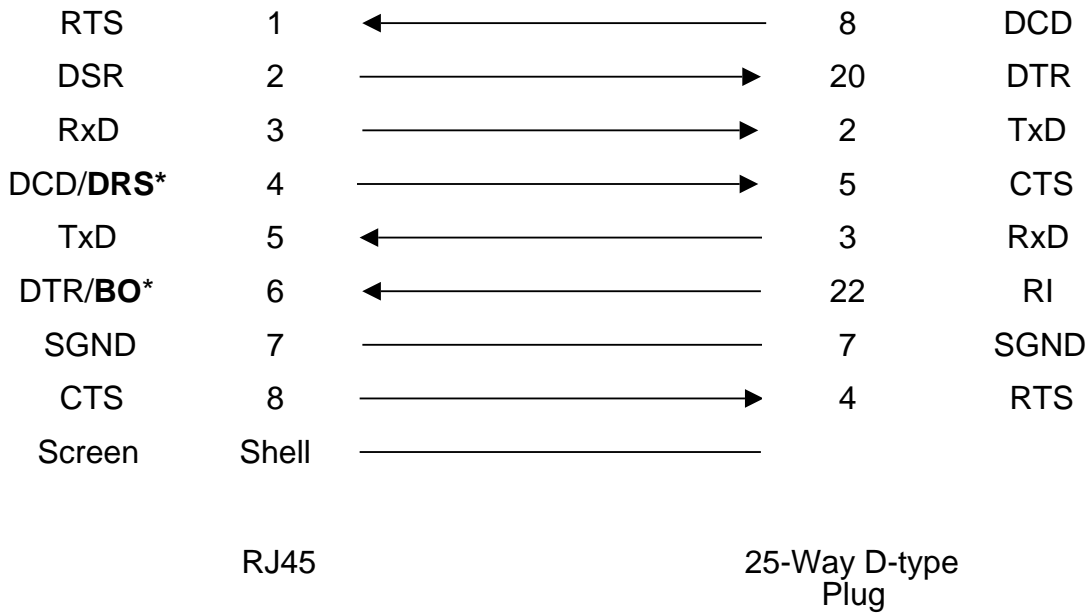

Figure B-5 RJ8 Application Card V.24 STP to 25-way D-type Crossover Converter (DCE to Dial-in Modem)
- (3) RJ8 Application Card to DCE (e.g. Asynchronous Dial-in modem) use cable as shown in Figure B-2, with converter X870-402011, Figure B-5.